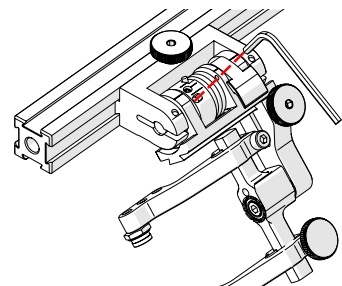

Fig. 142 - Unlatched position
3. Insert the short arm of a 3 mm hex wrench into the 3 mm slot (Fig. 142).